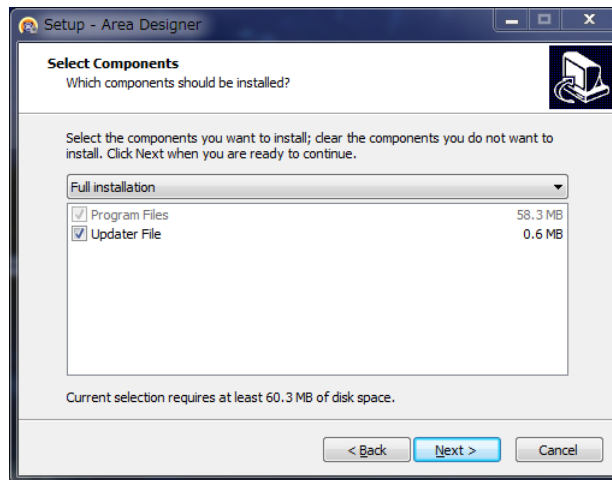

Fig 2-3 Select the component
5. As shown in Fig 2-3, click “next” then user will be proceed to specify the program group of “Area Designer”. If there is no particular specification then click “next”.